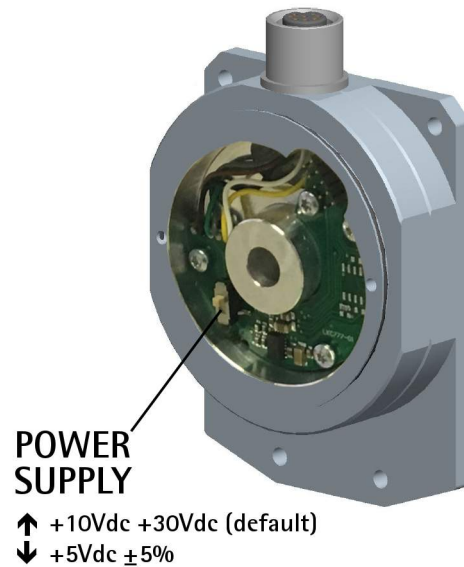

Figure 8
* The power supply voltage level must be set through the POWER SUPPLY DIP switch located inside the enclosure of the converter, see the "4.7 POWER SUPPLY DIP switch (Figure 8)" section on page 28.
4.7 POWER SUPPLY DIP switch (Figure 8)